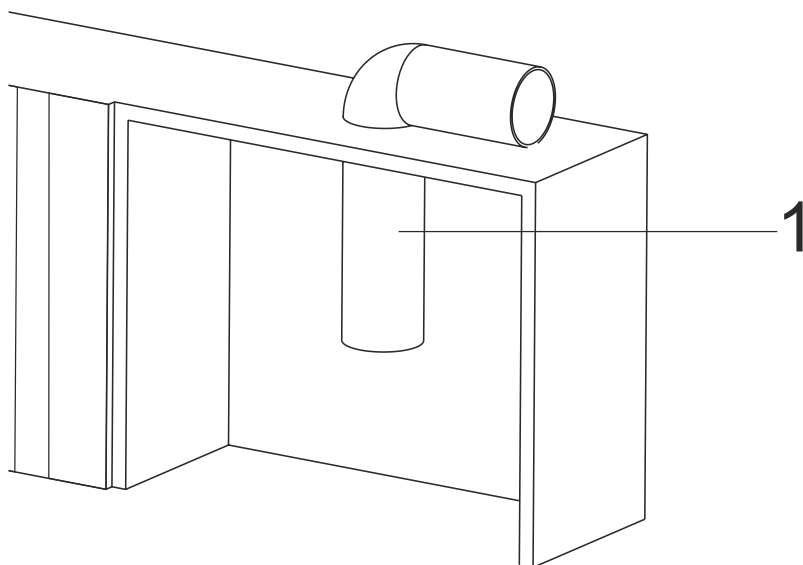

Fig. 16
2. Bring the air exhaust pipe to the cabin in which the appliance will be mounted on (Fig. 16).